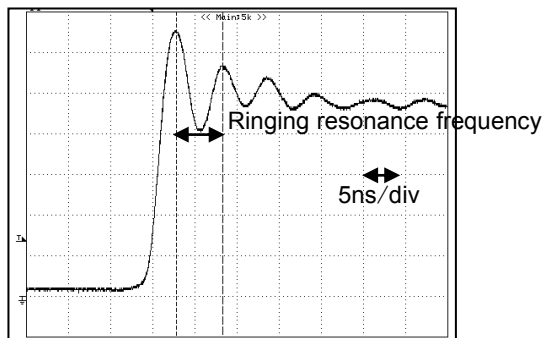

Figure 76. PWM Output waveform (Measure of spike resonance frequency)
- ① Measure the ringing resonance frequency “ f_1 ” of PWM output waveform (when rising) by using low capacitance Probe (e.g. FET probe) at the OUT terminal. (Figure 76)